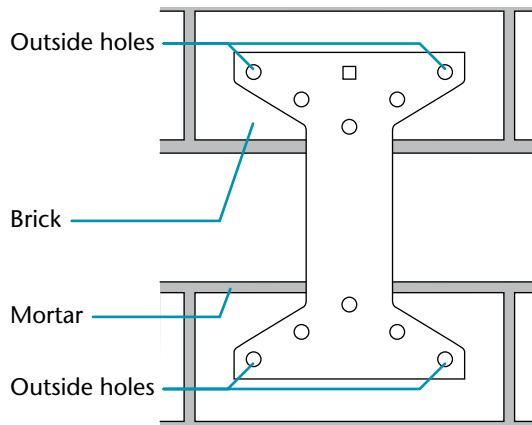

Figure 4-45. Base plate hole locations
5. Use a pencil to mark the location of the top left outside hole of the base plate (see figure 4-45) onto the surface.